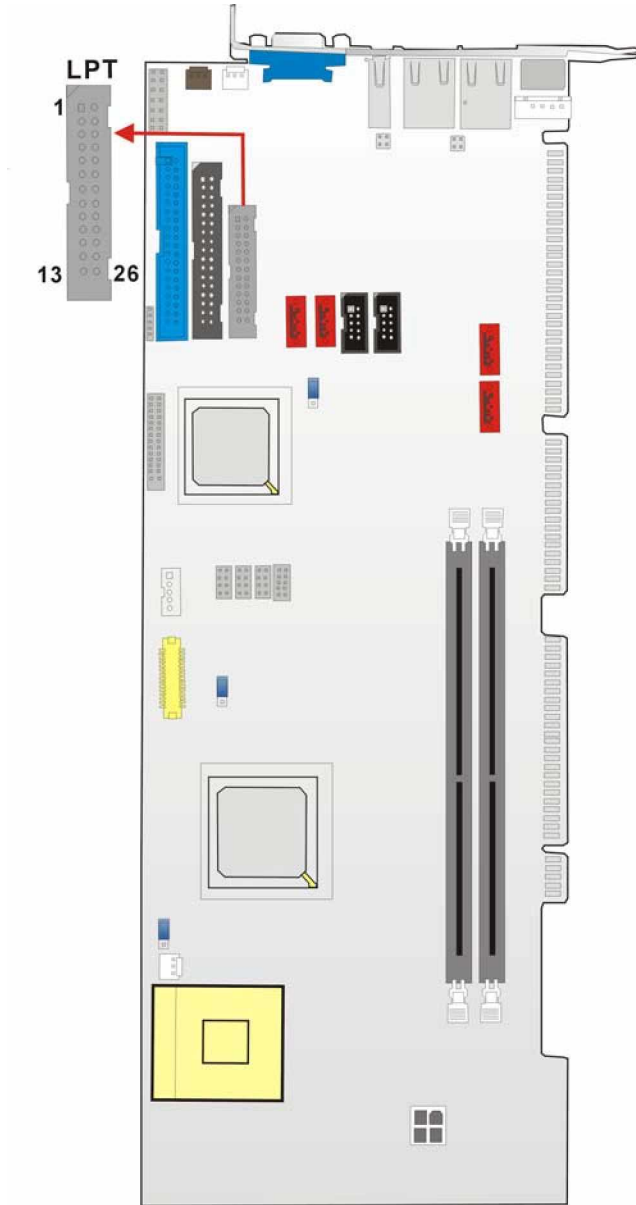

Figure 3-5: LPT Connector Location
- CN Location:** See Figure 3-5